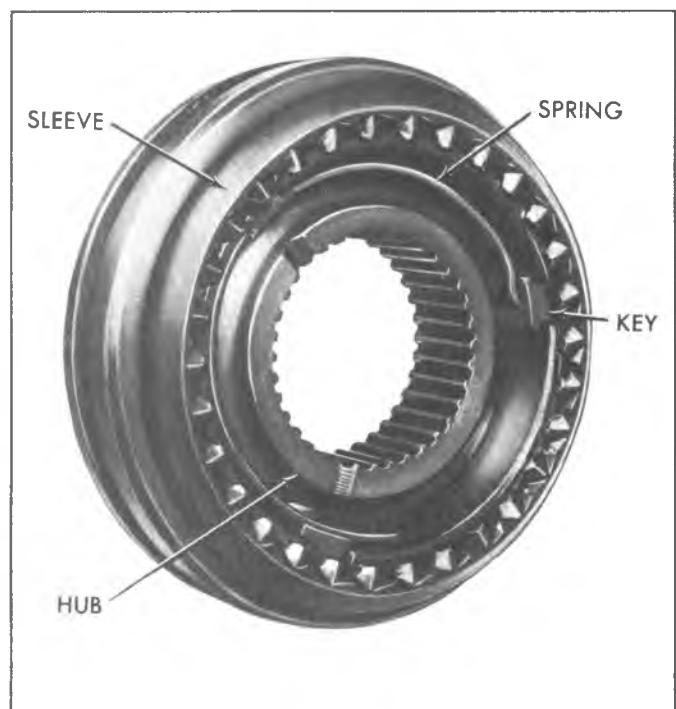

Fig. 11X--Three-Four Synchronizer Assembly
3. Place the three keys and two springs in position (one on each side of hub), so all three keys are engaged by both springs (fig. 11X). The tanged end of each synchronizer spring should be installed into different key cavities on either side. Slide the sleeve